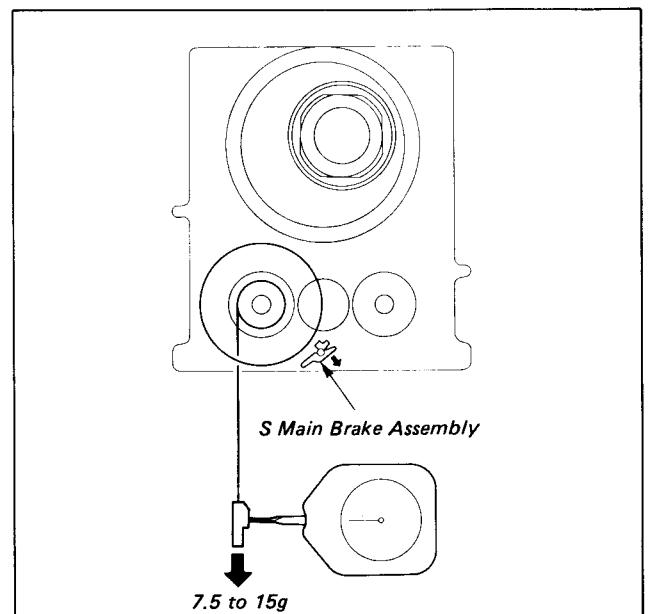

Fig. 1-68
- 4) Pull the dial tension gauge (Ref. No. J-6) toward the arrow and check that the value satisfies the required value. (See Fig. 1-68.)